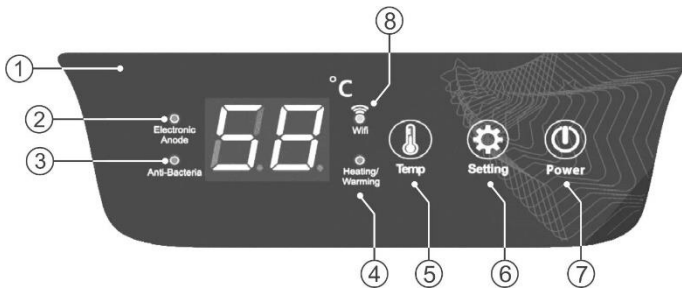

Figure 2. Electronic control board
Figure 2: 1 – LED display, 2 – indication «Electronic Anode», 3 – indication «Anti-Bacteria», 4 – indication «Heating/Warming», 5 – button «Temp», 6 – button «Setting», 7 – button «Power», 8 – indication «Wi-Fi».
Switching on or switching off of the EWH is performed by pressing the button «Power» (Fig. 2, p. 7).
During the operation of the EWH, the user can adjust the temperature of the water heating using button «Temp» (Fig. 2, p. 5). The temperature would increase by 1°C each time. Long press increases the data rapidly (5 times/sec.)
«Anti-Bactera» (Fig. 2, p. 3) indication lights up when Anti-Bactera mode is switching on. Selection of this mode is performed by pressing the button «Setting» (Fig. 2, p. 6), on the control panel. Under this mode the temperature is not adjustable, the system will enter the heat preservation state after heating to 80°C, and return to standard work after 30 minutes of heat preservation.
«Electronic Anode» (Fig. 2, p. 2) indication lights up when electronic anode is working normally, and it flashes when it is abnormal.
«Heating/Warming» (Fig. 2, p. 4) indication lights up with red light for normal heating, green light for keep warming and it flashes under Anti-frost heating. Anti-frost mode activated when power is on and water temperature in inner tank is lower than 5°C then will stop and standby after heating up to 10°C.
2. On water heater panel press and hold button «Power» for 3 seconds when power is on (Fig. 2, p. 7). Appears Wi-Fi indication (Fig. 2, p. 8).